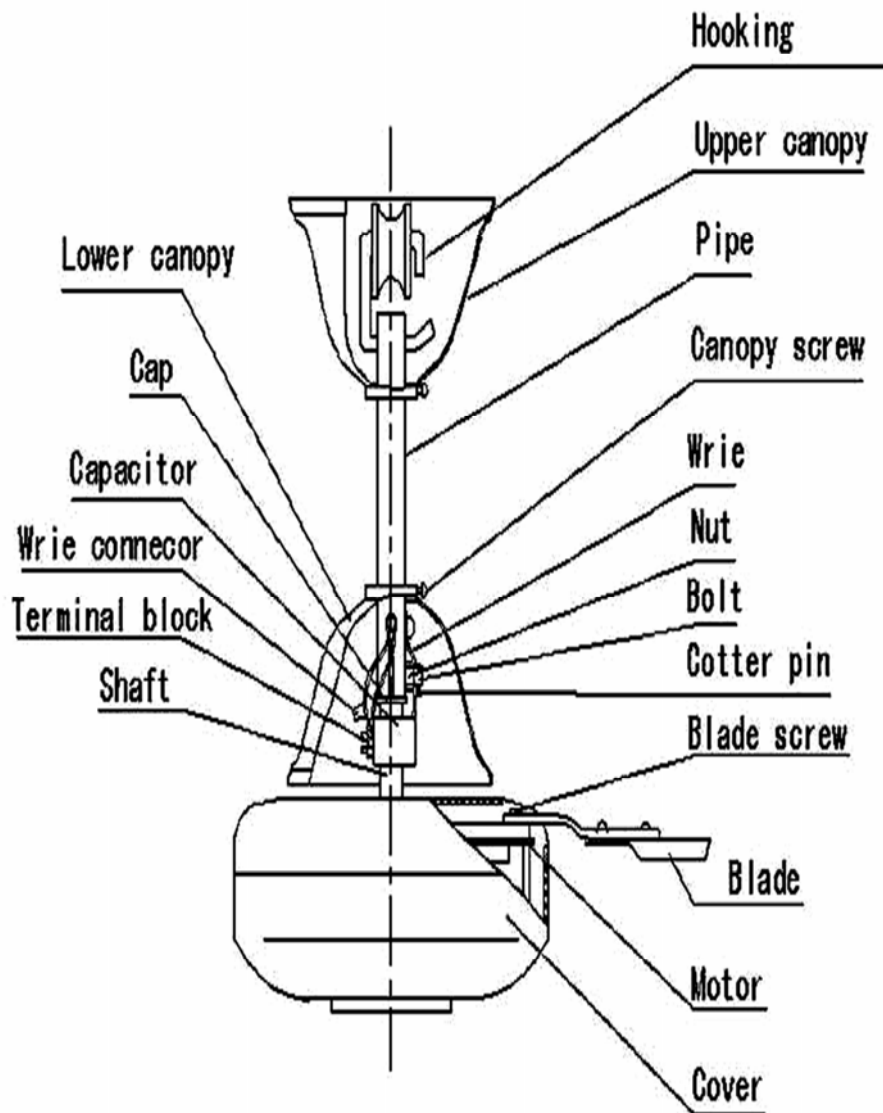
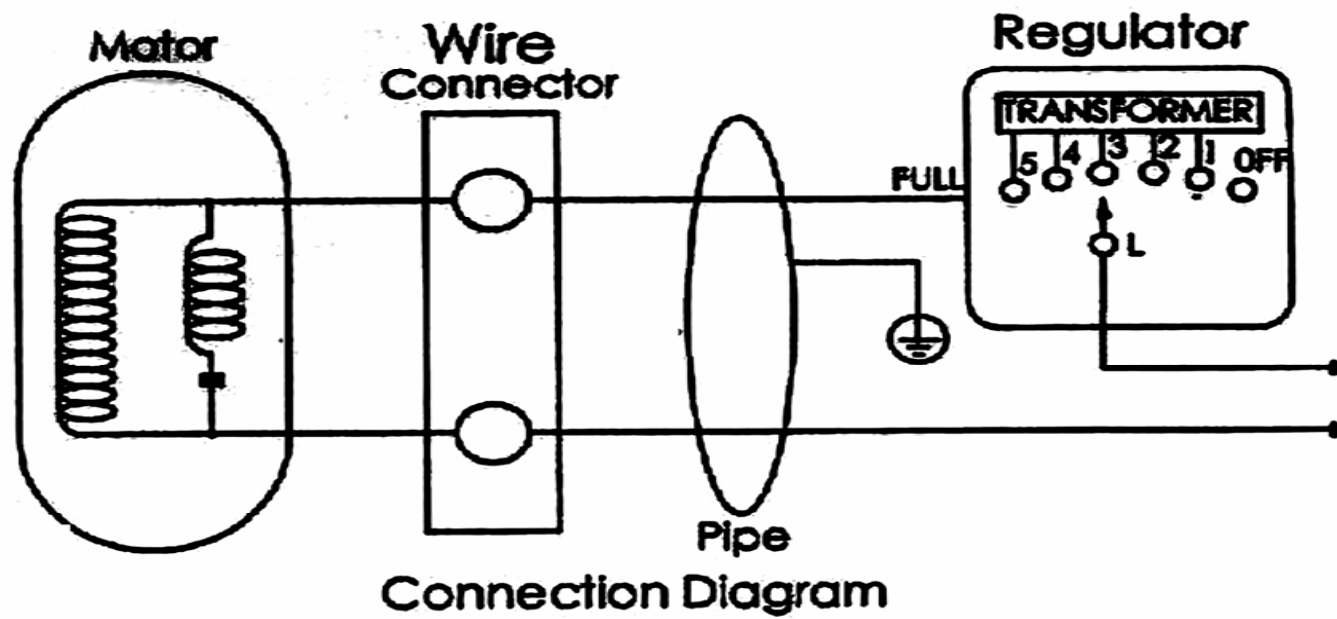

Fig.1
Fig.2
2. Lead in the electric wires through the pipe and connect to the terminal block according to Fig 2.
Connection the power cord to the terminal block, then connect the ear thing wire to the ear thing screw.(See Fig.1 and Fig.2).
8. The wiring of the speed regulator .Screw out the screw which are used to connect the regulator's cover' and bottom frame. Take off the cover, connect the regulator on to the circuit of the fan (See Fig.2).